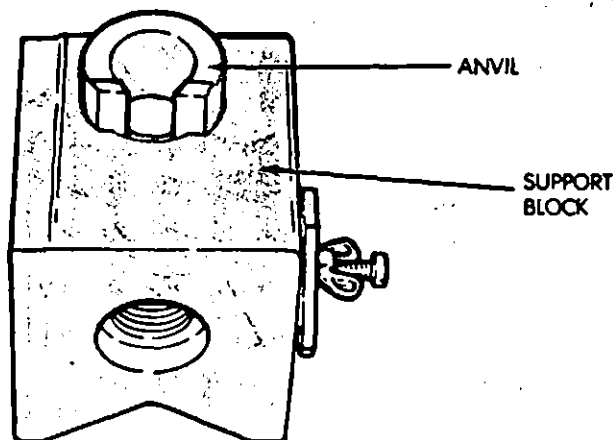

Fig. 5—Piston Pin Removal/Installation
(1) Remove the piston connecting rod assembly from the cylinder liner by pulling it out the bottom of the liner.
(2) Use the piston support block, the anvil and the extractor rod of the piston pin removal/installation kit (Tool 7305) to press the piston pin from the piston and connecting rod (Fig. 5).